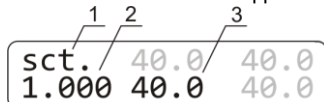

Figure 2. Display in calibration mode: 1. Calibration mode indicator; 2. Calibration coefficient; 3. Temperature with current coefficient
- 6.2. To change the calibration coefficient, hold the **TIME RUN/STOP** key pressed for more than 8 s to activate calibration mode. The calibration coefficient appears on the display (fig. 2).
Note. Values marked in grey on figures 2 and 3 are not used in calibration and are meant for service engineers.
- 6.3. **Restoring factory settings.** Set 1.000 value using the **▲** and **▼ T, °C** keys as shown on fig. 2/1 to restore the factory settings. Press the **RPM RUN/STOP** key once to save the changes and exit the calibration mode.
- 6.4.5. Hold the **TIME RUN/STOP** key pressed for more than 8 s to activate calibration mode (fig. 2).